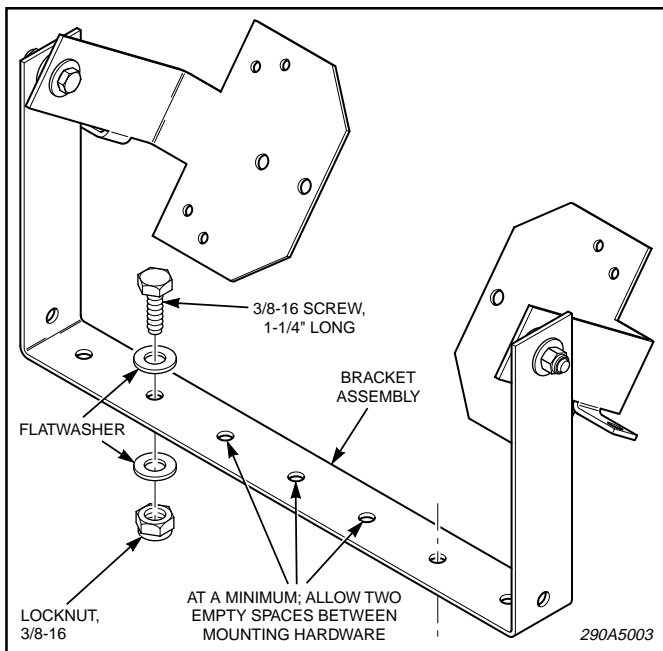

Figure 2.
3. Attach the assembly to the mounting surface. See figure 2. Place the assembly onto the mounting surface. Select and mark 2 holes for drilling. There are seven 3/8" holes in the mounting bracket. Select 2 that provide the best arrangement for the particular installation. If there are no limitations to where the holes can be located, use the left and right outermost. There should be a minimum of two unused